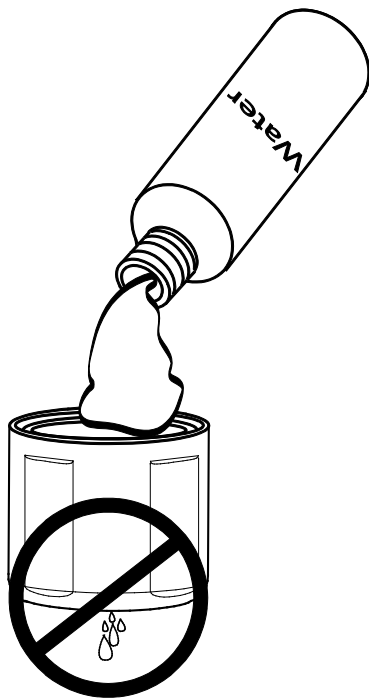

FIGURE 8-6. Check for leakage
8. Pour some clean water into the lower body and look for leakage around the membrane (see FIGURE 8-6); replace membrane if there is leakage. If there is no leakage, dispose of the water.